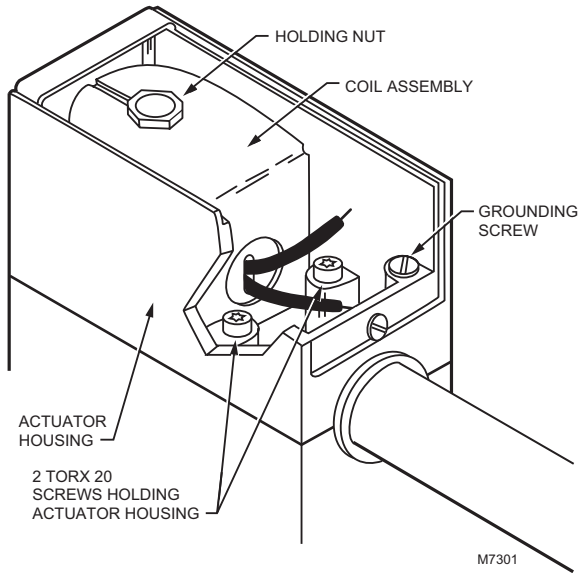

Fig. 13. Internal view of actuator housing.
- Remove the two torx screws inside the actuator housing (Fig. 13) and lift off the housing.
- Remove the holding nut from the top of the coil assembly (Fig. 13).
- Replace the holding nut on top of the coil assembly (Fig. 13) and tighten it securely.
- Replace the actuator housing and tighten the two torx screws holding it in place (Fig. 13).